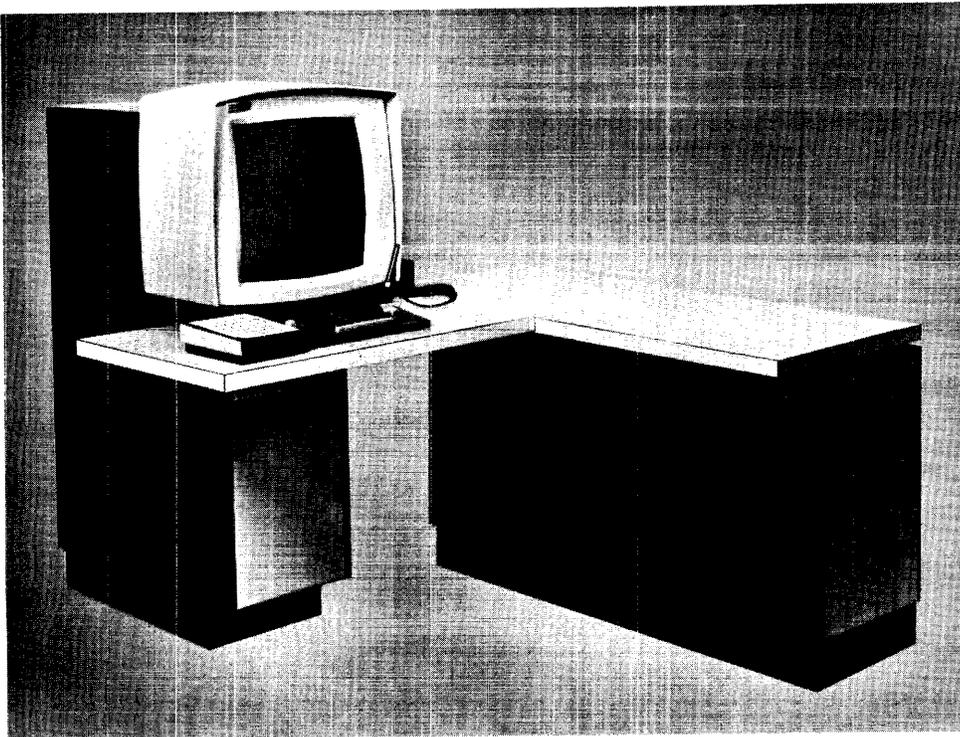
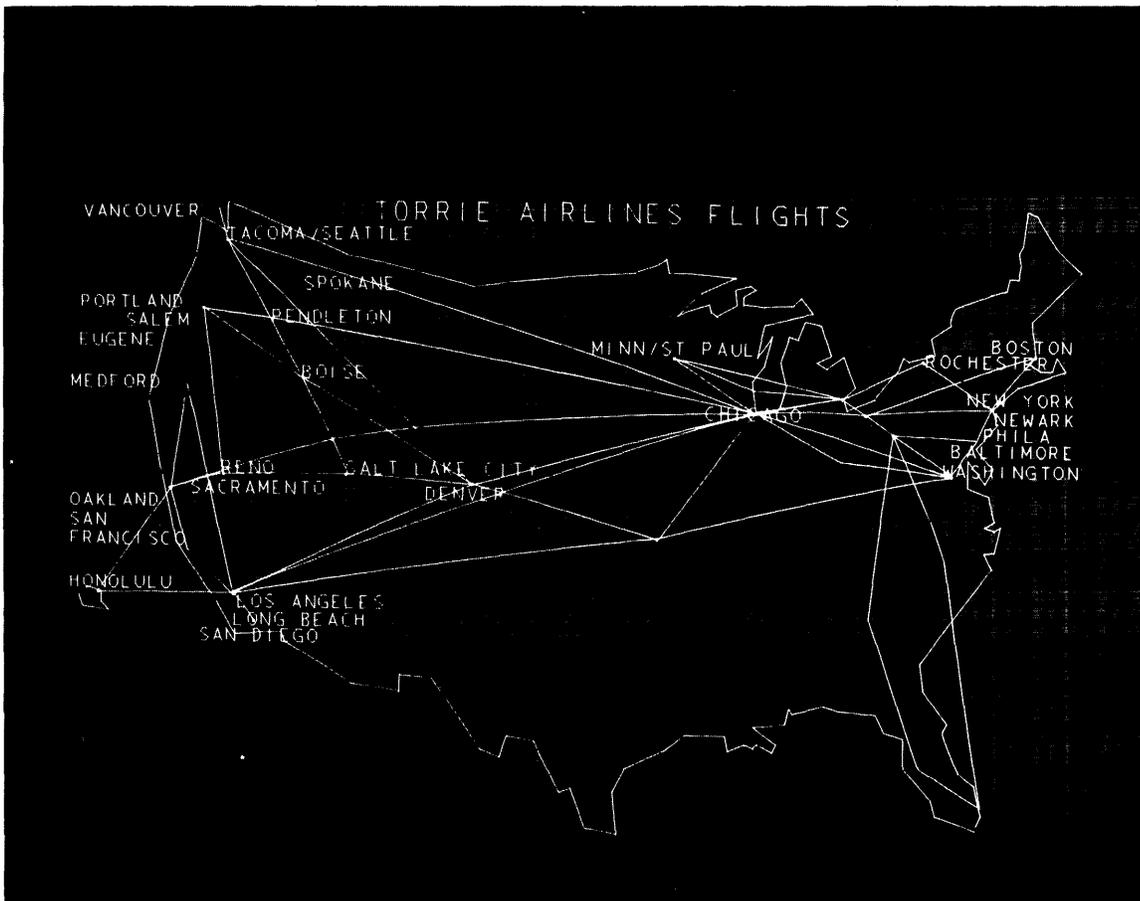
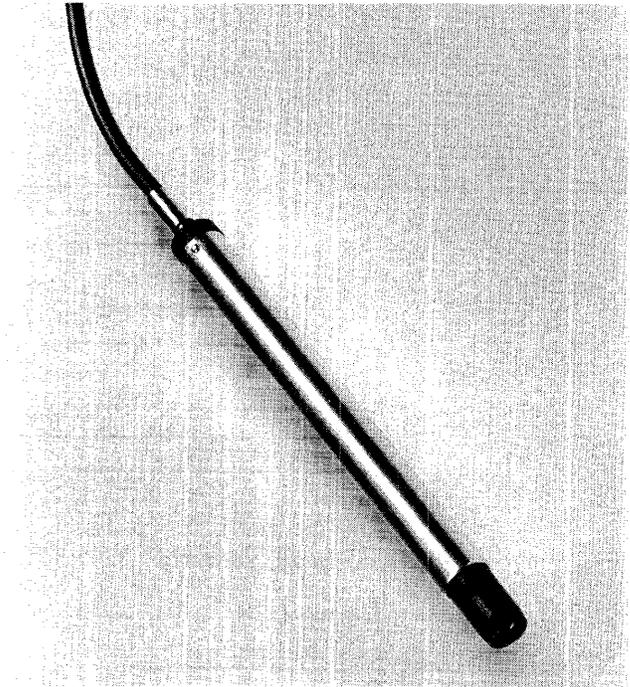

Figure 7-17. IBM 2250 Display Unit
Figure 7-19. IBM Displays Showing Absolute Vector Graphics, Point Plotting, and Both Sizes of Alpha Characters
Figure 7-20. Fiber Optics Light Pen
The IBM 2250 Display Unit (Figures 7-17 and 7-18) provides high-speed visual communication between the System/370 and its user. Tables, graphs, charts and alphanumeric data are displayed within the 12-inch square central area on the face of a 21-inch cathode ray tube (Figure 7-19). Keyboards and a light pen (Figure 7-20) supply the means for entry and change of computer information.
The display area (Figure 7-19) contains over 1,000,000 display points that can be individually addressed by X and Y coordinates. The CRT beam is deflected to each point on
*Light Pen* (Figure 7-20), a standard feature for the Model 3, is a pen-like device that enables the operator to identify to the program a particular point, line, or character in the displayed image. The operator moves the pen point to the part of the image he wants to identify; the photo-detector associated with the pen, sensing light at that point, generates a signal for the program. The light pen can be used alone or in conjunction with a keyboard to rearrange or delete information, or to add lines from a base point already lighted by the CRT beam.
In the fiber optics light pen (Figure 7-20), light is transmitted from the screen back to a sensing device in the console through a flexible connection made of glass fibers. Also, instead of being used in conjunction with a foot switch, this new light pen has a tip switch that is operated by depressing the pen tip on the screen.